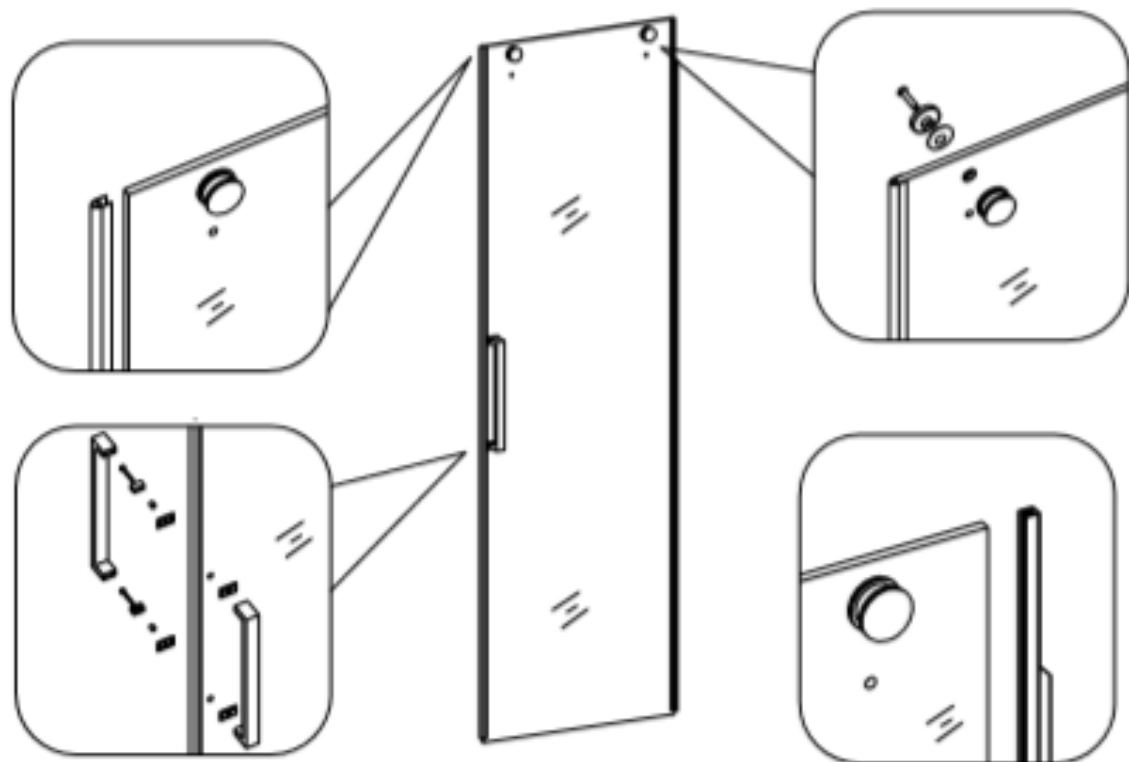

Fig 12
11. Install the **wheel (10)**, **side anti-water strip (16)** and **handle (14)** on the **glass door (15)**. (Fig 12)